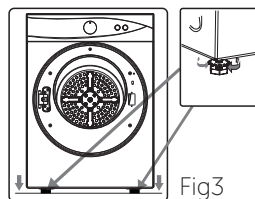

Fig3
**3:** First, loosen the plastic adjustment nut. (Fig 3)